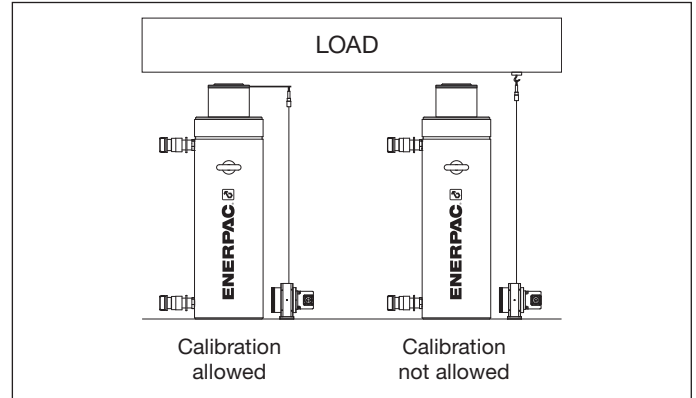

Figure 20, Calibration conditions
- Cylinder calibration selection: The user must set if the calibration is going to be carried out or not, depending on the type of cylinder used. Refer to Figure 20 for details.